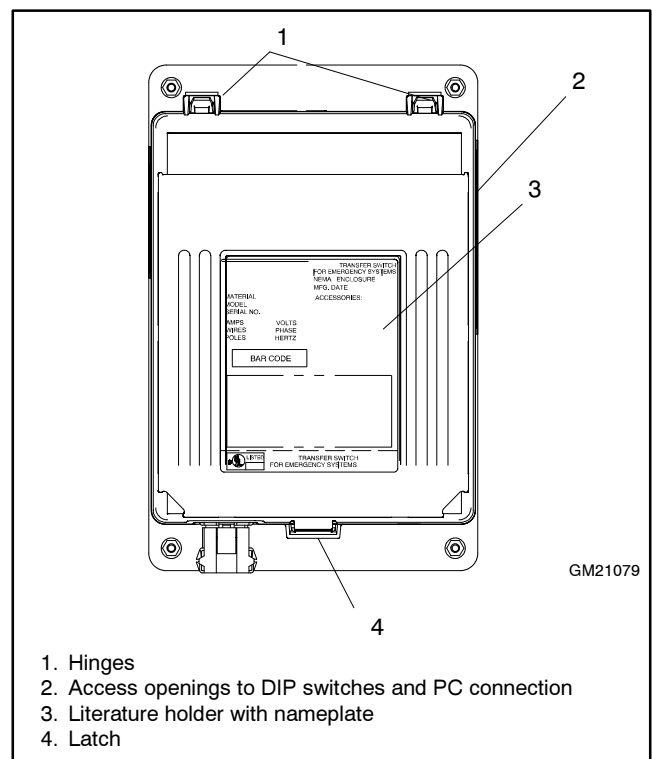

Figure 6 Controller Housing Cover
- 4.2 Remove the plastic cover from the old controller . To remove the cover, depress the latch at the bottom of the cover. Swing the cover open on its hinges and lift it off. See Figure 6.